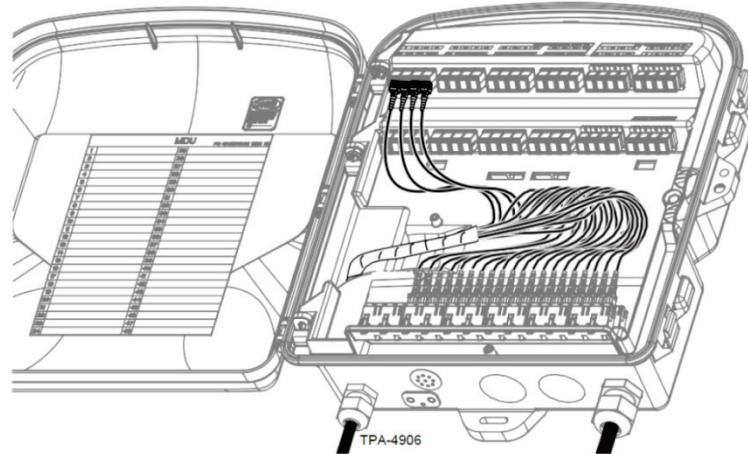

Figure 10
Step 1 Select the appropriate connector from the parking area (Figure 10)
| Step 4 | Record the connector terminations on the identification label inside the front cover (Figure 10) as they are made. |